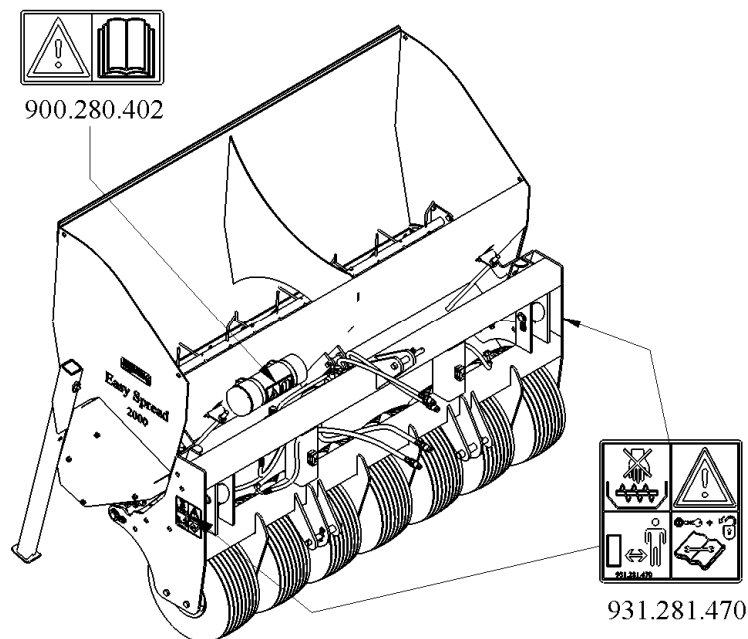

Figure 5
Both sideboards of the **Easy Spread** have a safety sticker (figure 5) that have the same information. This safety sticker must always be clearly visible and legible and must be replaced if they have become damaged.
- (7) Location of the safety stickers (Figure 5).